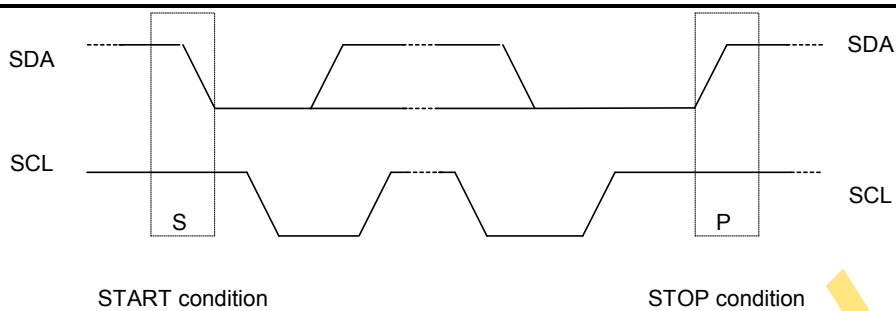

Figure 14 Start and Stop conditions
The CH1120 supports both read and write access. The R/\bar{W} bit is part of the slave address. Before any data is transmitted on the I²C-bus, the device that should respond is addressed first. Two 7-bit slave addresses (0111100 and 0111101) are reserved for the CH1120. The least significant bit of the slave address is set by connecting the input SA0 to either logic 0(GND) or 1 (VDD). The I²C-bus protocol is illustrated in Fig.14. The sequence is initiated with a START condition (S) from the I²C-bus master that is followed by the slave address. All slaves with the corresponding address acknowledge in parallel, all the others will ignore the I²C-bus transfer. After acknowledgement, one or more command words follow which define the status of the addressed slaves. A command word consists of a control byte, which defines C_0 and D/\bar{C} (note1), plus a data byte (see Fig.19). The last control byte is tagged with a cleared most significant bit, the continuation bit C_0 . After a control byte with a cleared C_0 -bit, only data bytes will follow. The state of the D/\bar{C} -bit defines whether the data-byte is interpreted as a command or as RAM-data. The control and data bytes are also acknowledged by all addressed slaves on the bus. After the last control byte, depending on the D/\bar{C} bit setting, either a series of display data bytes or command data bytes may follow. If the D/\bar{C} bit was set to '1', these display bytes are stored in the display RAM at the address specified by the data pointer. The data pointer is automatically updated and the data is directed to the intended CH1120 device. If the D/\bar{C} bit of the last control byte was set to '0', these command bytes will be decoded and the setting of the device will be changed according to the received commands. The acknowledgement after each byte is made only by the addressed slave. At the end of the transmission the I²C-bus master issues a stop condition (P). If the R/\bar{W} bit is set to one in the slave-address, the chip will output data immediately after the slave-address according to the D/\bar{C} bit, which was sent during the last write access. If no acknowledge is generated by the master after a byte, the driver stops transferring data to the master.